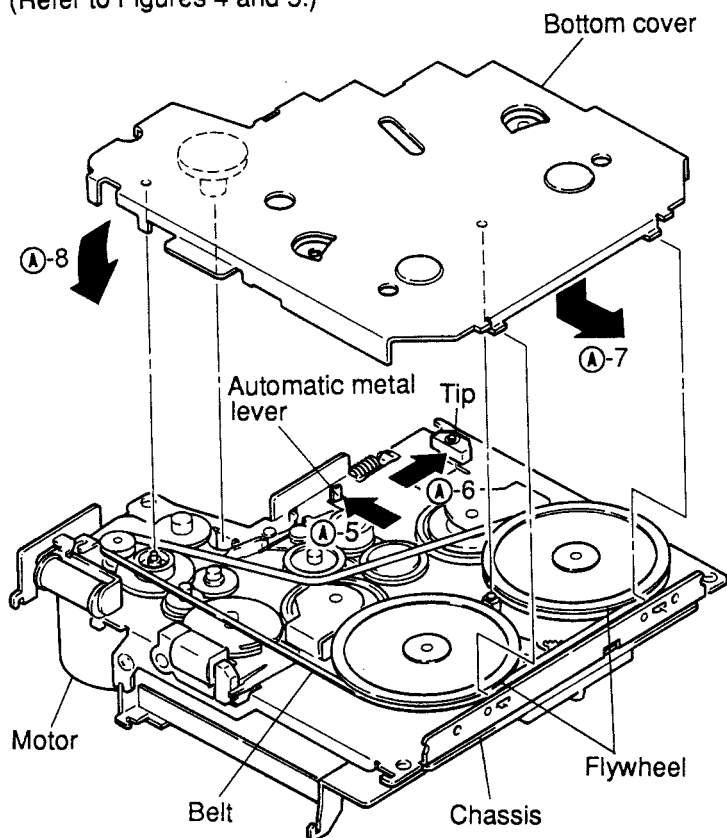

Figure 3
- (9) Turn the mechanism around as shown in Figure 3.
- (10) Pull the automatic metal lever in the direction ①-5 and the RF solenoid chip in the direction ①-6 as shown in Figure 3.
- (11) Insert the hooks of the bottom cover into the chassis in the direction ①-7, and then join the part ①-8 of the bottom cover to the chassis slowly, making sure that the 3 points indicated with the straight lines in the Figure 3 are fitted properly.
If there are troubles in mounting the bottom cover, do not apply force but remove the bottom cover once again and check the positions of the individual parts. (Refer to Figure 3.)